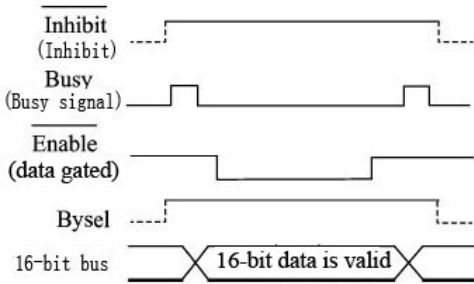
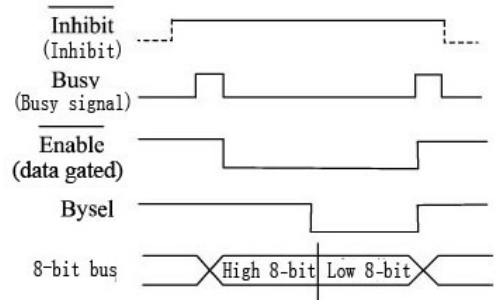

Fig.6 Time sequence diagram for 16-bit bus transfer
Fig.7 Time sequence diagram for 8-bit bus transfer
In asynchronous reading mode, $\overline{\text{Inhibit}}$ is set to logic "1" or empty, whether the internal loop is always in the stable state or whether the output data is valid shall be determined through the status of busy signal **Busy**. When Busy signal is at high level, it indicates the data is being converted, and the data at this time is unstable and invalid; when Busy signal is at low level, it indicates the data conversion has been completed, and the data at this time is stable and valid. Once high level occurs in Busy during reading, the reading at this time is invalid. In asynchronous reading mode, the Busy output is pulse train of TTL level, its width depends on its rotational speed, there are also two use methods of the bus, i.e. 8-bit and 16-bit, the data reading during effective data output is also controlled by $\overline{\text{Enable}}$, please refer to the time sequence diagram for data transfer (Fig. 6 and Fig. 7).
6. MTBF curve (Fig. 7)